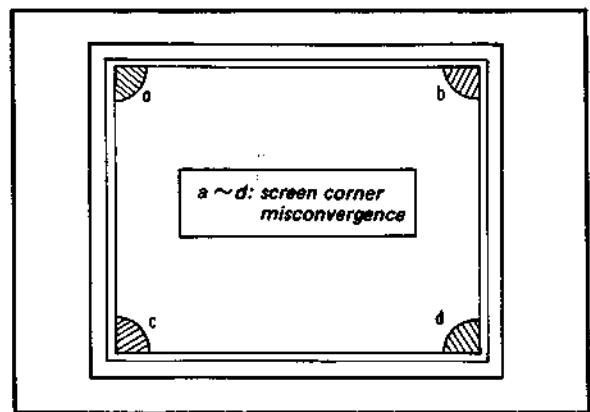

Fig. 3-13. Screen-corner convergence adjustment
This adjustment is made to correct corner misconvergence as shown in Fig. 3-13.
1. Attach a permalloy assembly (Part No. X-4302-401-0) for best results at the affected area. See Figures 3-13 and 3-14.